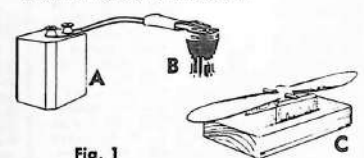

Fig. 1
3. Procure a 1 1/2 volt dry cell battery, #6 or equivalent, and connect it with 2 flexible insulated wires to the glow plug clip as shown in the diagram A and B—Fig. 1. Do not use a stronger battery. If you do, the plug will burn out. The connections should be soldered to insure good contact, and taped to prevent the bare ends of the wires from touching and "shorting" the battery. Be sure the battery is a good one. Your hobby dealer sells batteries and glow plug clips. The Cox plastic mounted glow plug clip (Cat. No. 755-6) with wires already attached is recommended, and requires no soldering.
4. Balance and trim the propeller. This is essential for contest performance. Sand off any bead of plastic along the edges of the blades. Fit a drill or shaft through the hole, and rest the shaft on razor blades set in a wooden block as shown in C—Fig. 1. Sand the heavy blade until the propeller will balance in a horizontal position. Care must be taken to do the sanding without spoiling the airfoil characteristics of the propeller blades.
5. Connect the battery by snapping the clip on the glow plug. B—Fig. 1.